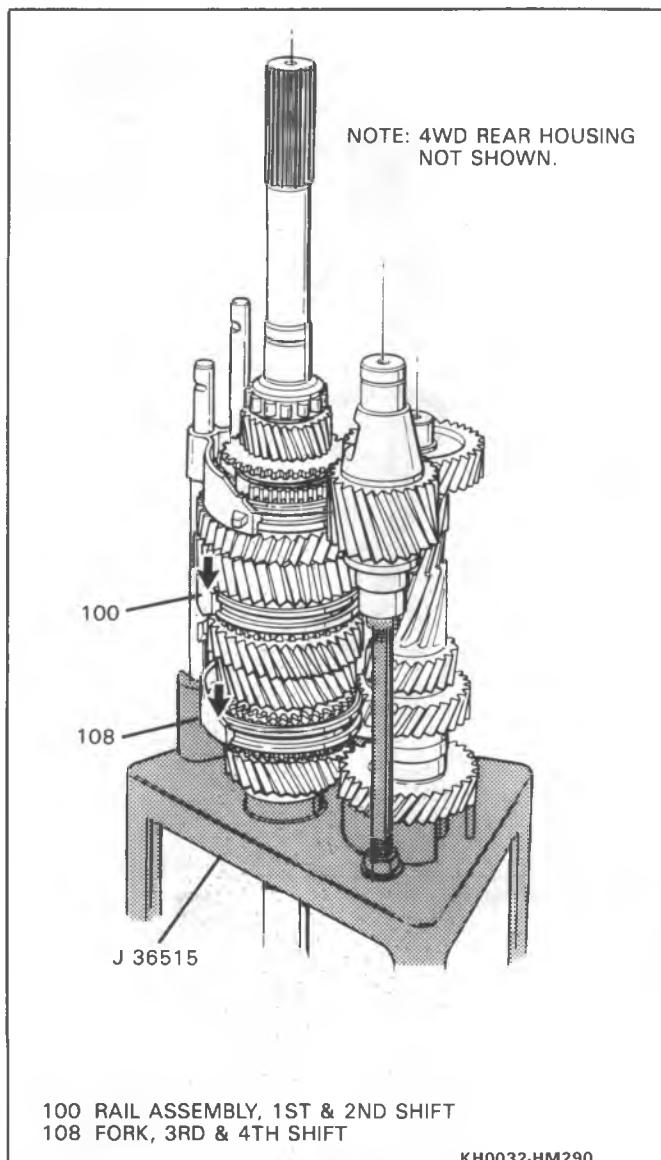
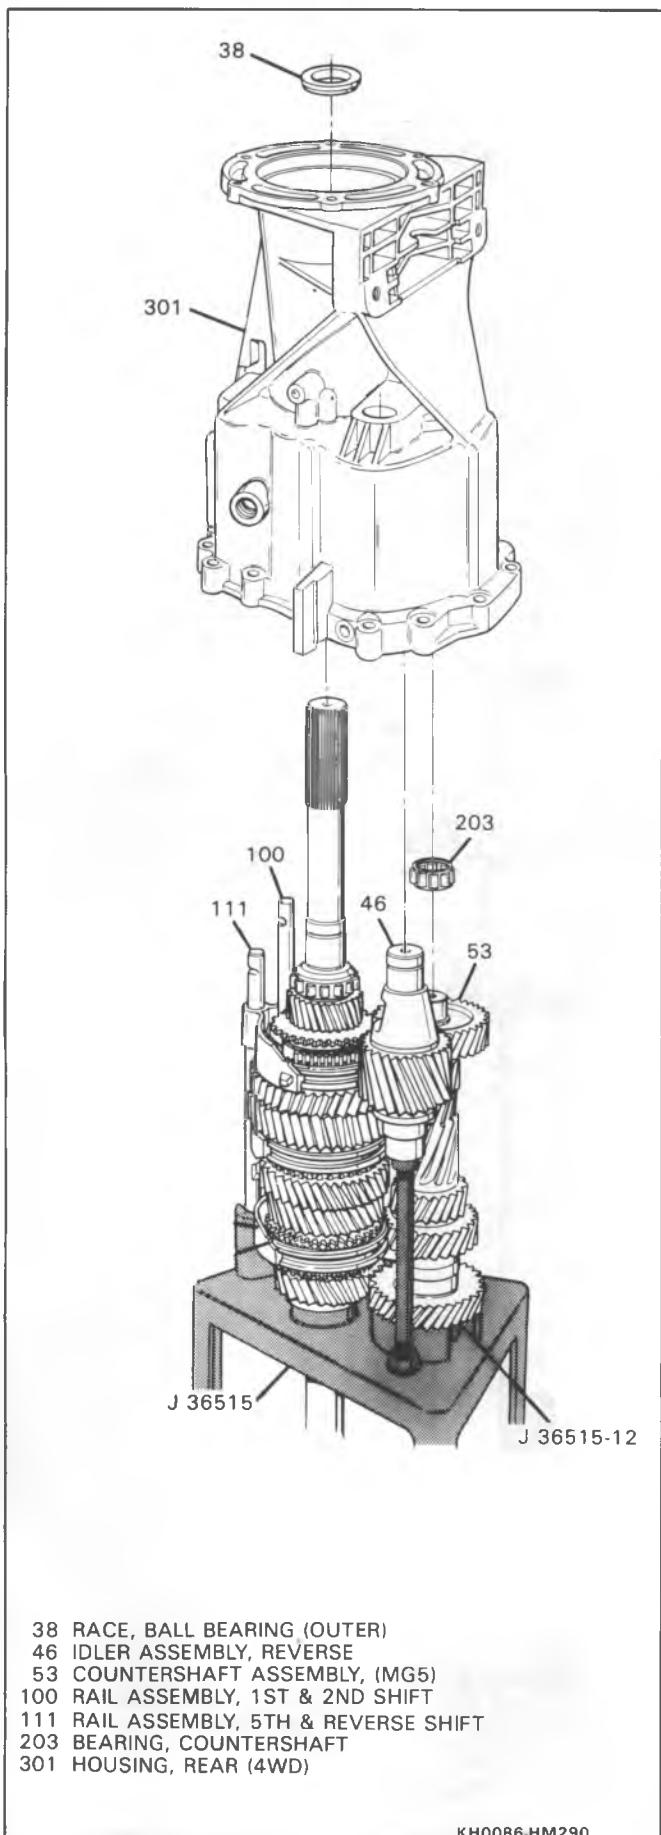

Figure 17 Locking Up Transmission
Figure 19 Removing 4WD Rear Housing
- Lock up the transmission in 2nd and 4th gear by sliding the 1st-2nd rail assembly (100) and the 3rd-4th shift fork (108) downward towards J 36515 (Figure 17).
31. Snap ring (43).
32. Threaded thrust ring (inner) (41), ball (40) and threaded thrust ring (outer) (39).
- Turn J 36516 clockwise till both threaded thrust rings (39) and (41) are completely apart.
33. 4WD Rear Housing Assembly (301) and bearing (203) (Figure 19).
- Save the ball bearing outer race (38) that will be left in the rear housing.